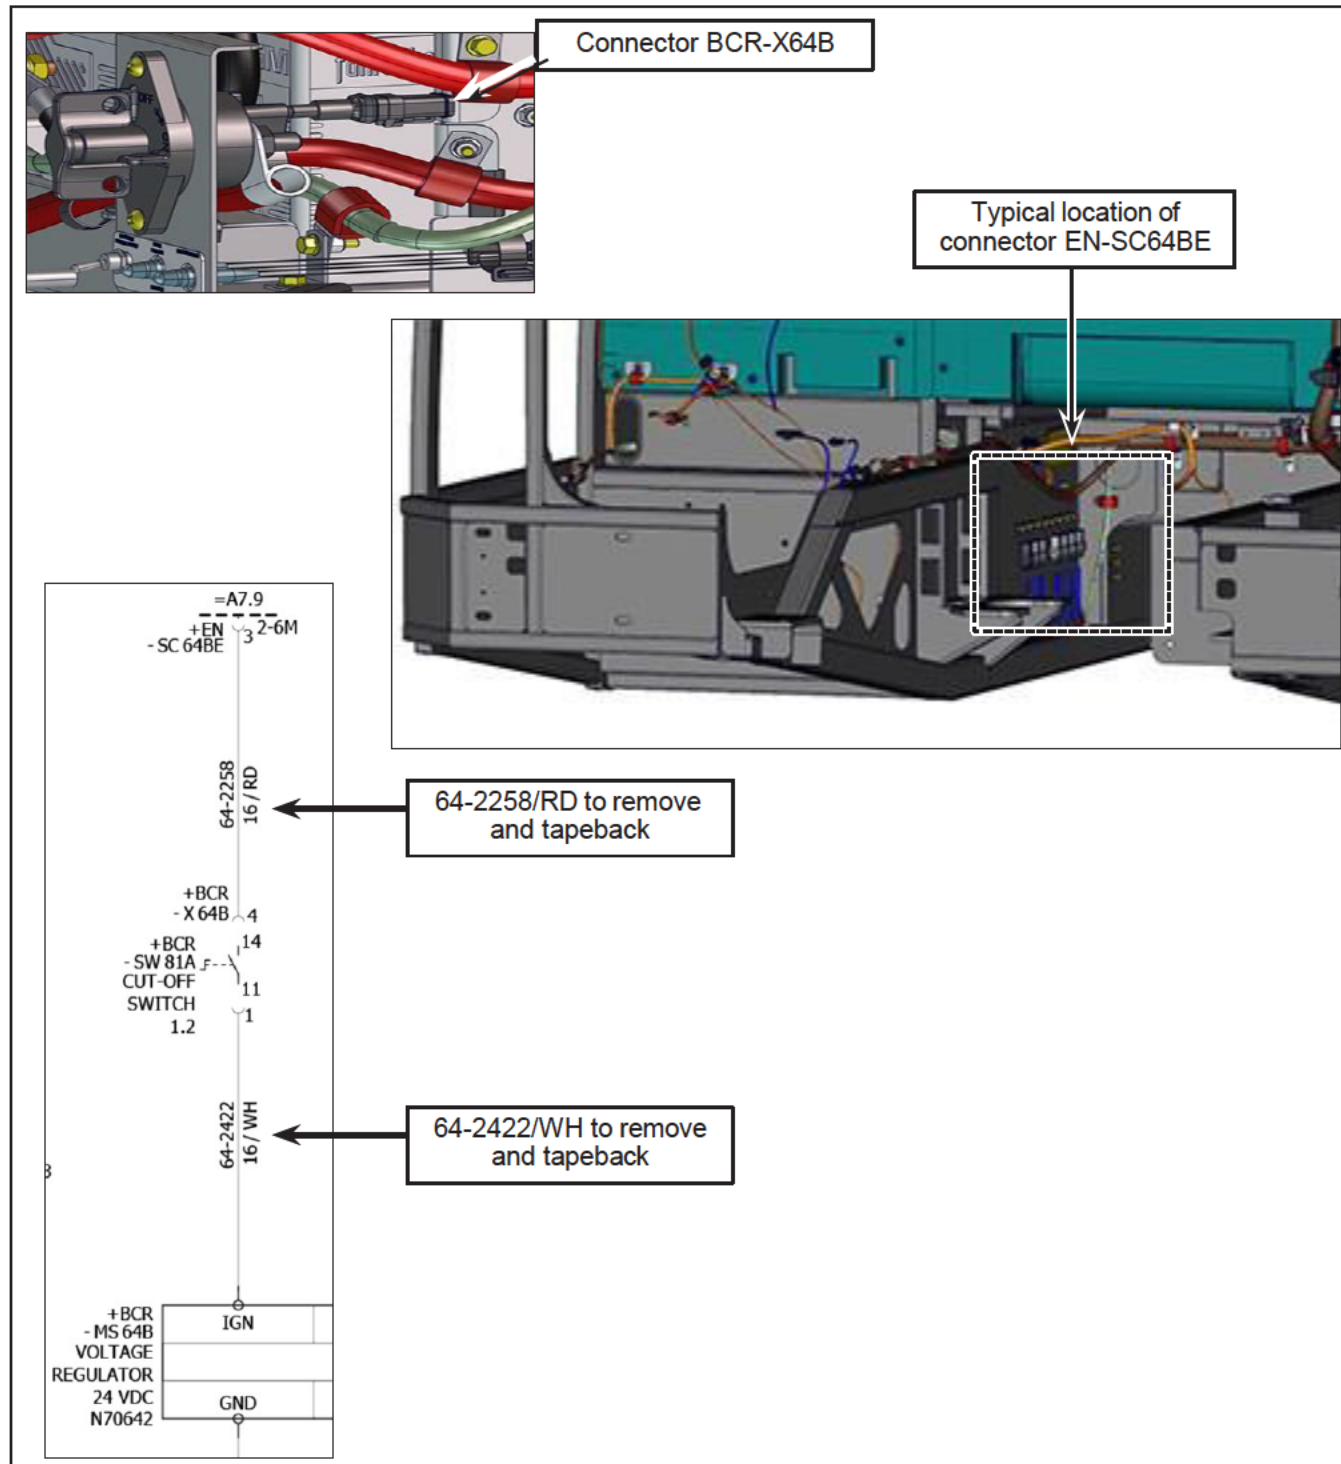

Figure 15 - Wire 64-2258 and 64-2422 to Remove
- 1.43. Disconnect connector BCR-X64B locate behind the battery disconnect switch in the battery compartment. See Figure 15.
- 1.44. Remove and tapeback wire 64-2258/RD from connector BCR-X64B and EN-SC64BE. See Figure 15.
- 1.45. Remove and tapeback wire 64-2422/WH from connector BCR-X64B and BCR-MS64B (Voltage Regulator). See Figure 15.
- 1.46. Connect wire 64-5774/RD (available in wire kit N632001301) in connector IB- X6499A and in connector BCR- X64B. See Figure 15.
- 1.47. Connect wire 64-5775/RD (available in wire kit N632001301) in connector IB- X6499A and in connector BCR- X64B. See Figure 15.